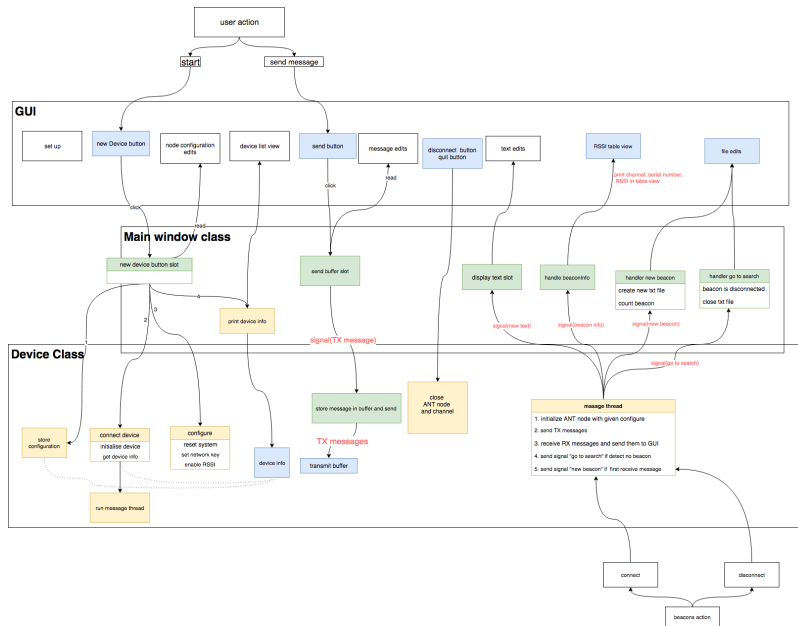

Figure 7: ANT GUI application structure
- Implement an application on QT Using these library files. The structure of the application is shown in figure 7.